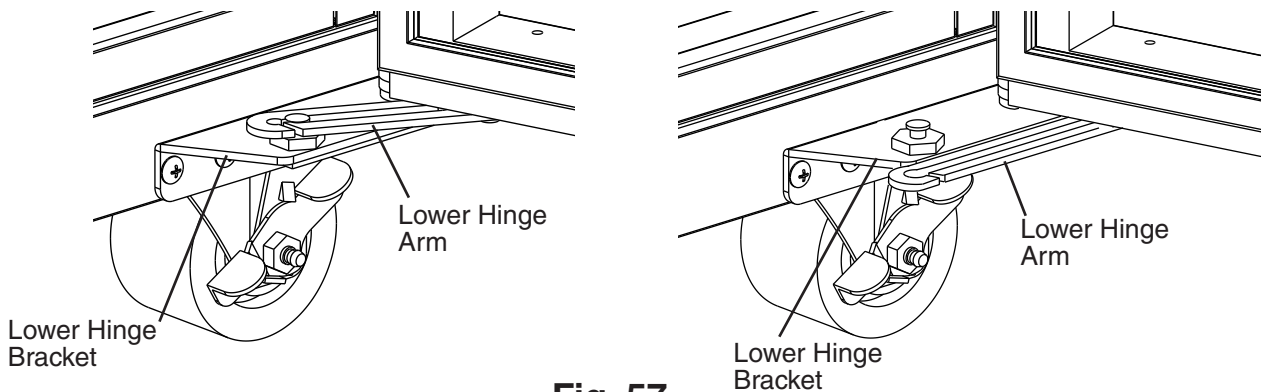

Fig. 57
- 9) Open the lower door. Using a screwdriver, unhinge the lower hinge arm from the lower hinge bracket. See Fig. 57